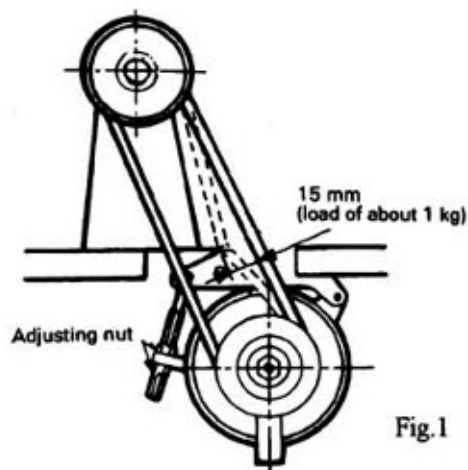

Fig.1
3. Installing the belt (Fig.1):